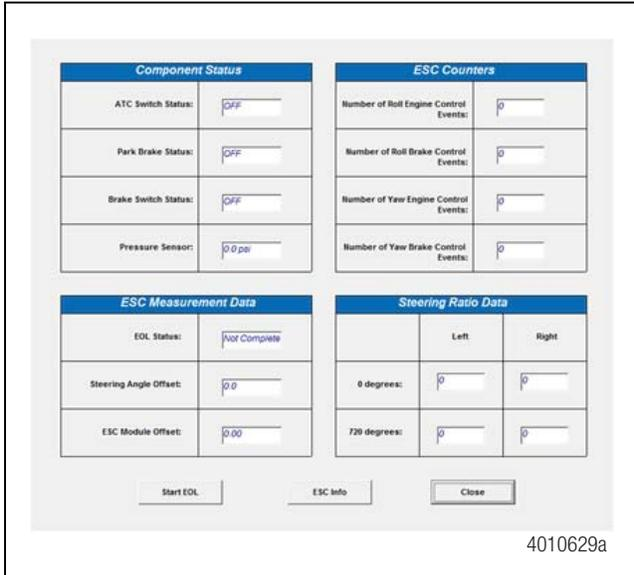
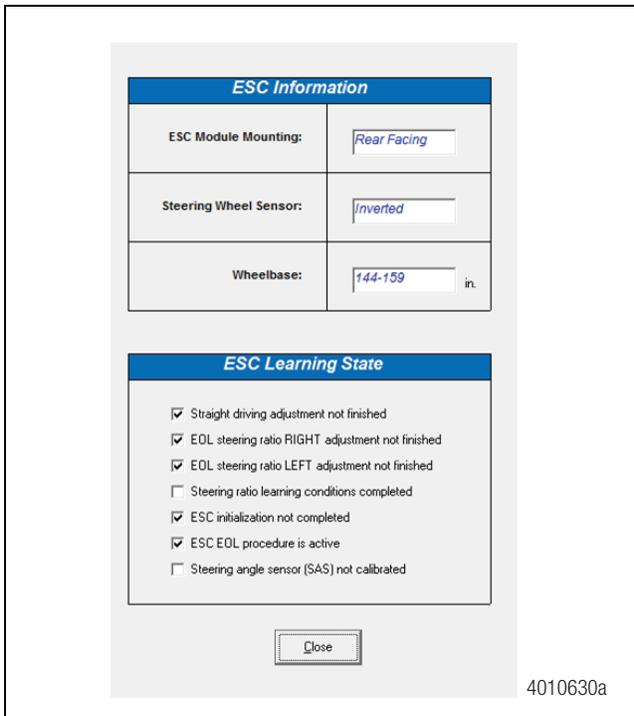

Figure 3.37
Figure 3.38
- If you are using TOOLBOX™ Software version 11 or higher, click on the "Components" button. A drop-box will appear. Select "ESC" then select "ESC Info". Figure 3.37 and Figure 3.38.